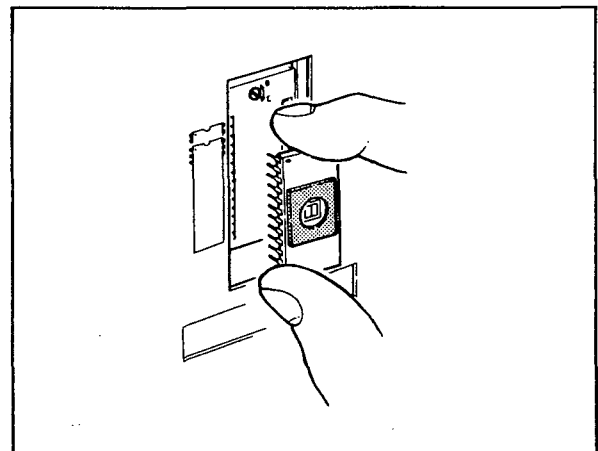

Figure 6-3-8. Removing ROM.
- d. Grasp the ROM manually and pull it out of the socket, being careful not to damage the pins. (See Figure 6-3-8.)
- (2) Installing User ROM